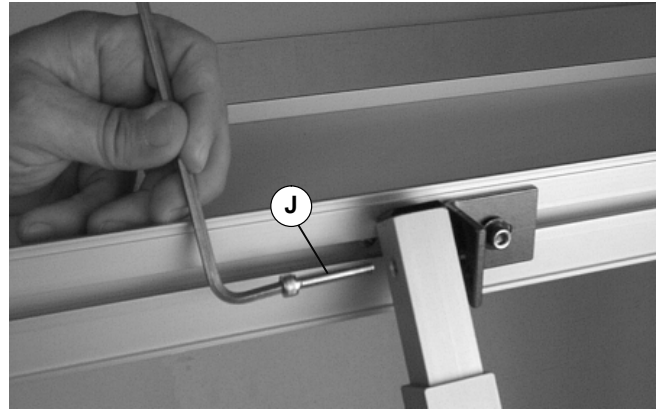

Figure 19
- Attach inner channel end with screw (J of Figure 19)